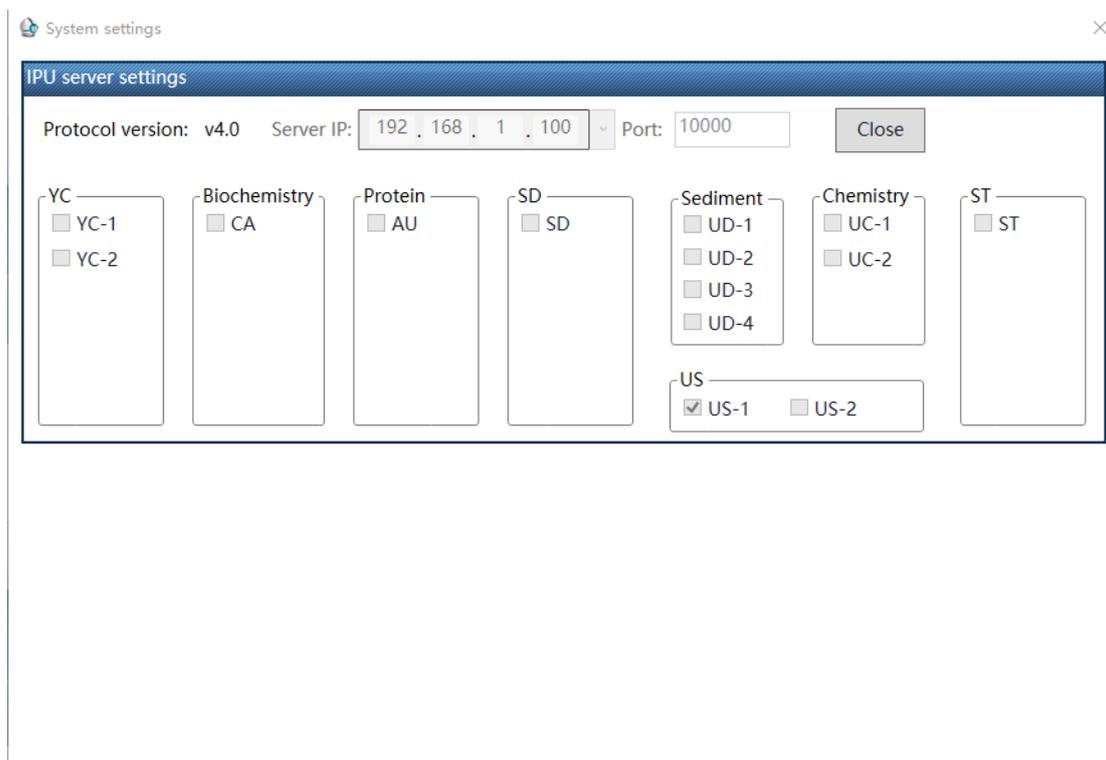

Figure 5-6 System setting interface
- 6) System setup: Click "System Setup" to pop up the system setting window, including online setting and test mode setting. The interface is shown in Figure 5-6.